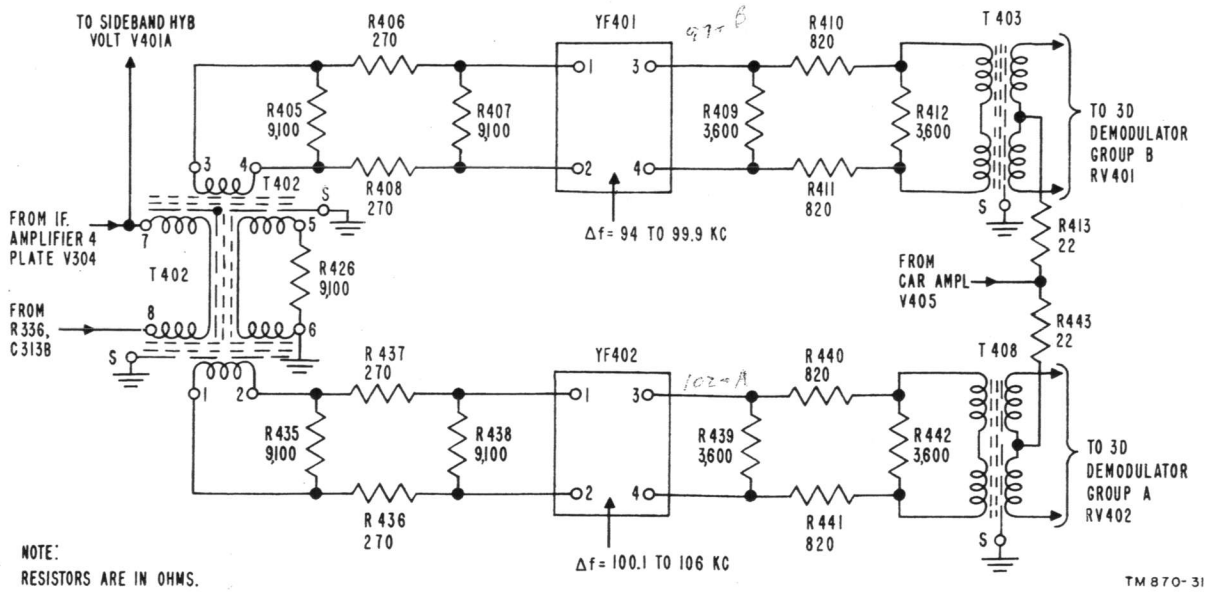

Figure 39. Groups A and B filters, schematic diagram.
YF402 (fig. 39) from strong signals that damage the crystal elements. The crystal filters couple the signal from if. amplifier 4 to the third demodulators (fig. 29). The magnitude of the signals that reach the if. amplifiers (with avc) is generally not large enough to damage the crystal filters. However, in using manual volume control, if the MAN VOL CONTROL potentiometer were on a high setting, the gain of the if. amplifiers might develop a signal with an amplitude sufficient to shatter the crystals in the filters. The protection circuit (b below) prevents this.
c. The amplified output voltage of V304 is developed across terminals 7 and 8 of transformer T402 (fig. 39). The signal input to carrier amplifier 1 is obtained from the secondary of T304.
a. The if. signal output of V304 consists of an am. signal with a frequency spread from 94 to 106 kc. Two sidebands are contained in this signal; one extends from 94 to 99.9 kc, and the other from 100.1 to 106 kc. Different intelligence is carried in the modulation of the two sidebands. To use the intelligence contained in each of the sidebands, the sidebands are separated by quartz crystal filters and are then demodulated in separate demodulators or detectors. Figure 39 is a simplified schematic of the circuit that distinguishes between the upper and lower sidebands and applies them to the separate demodulator channels.
a. The third demodulator in the group B channel is a full-wave, bridge-type demodulator that uses a copper-oxide varistor, RV401. Crystal filter YF401 passes the 94- to 99.9-kc sidebands to the primary of transformer T403 through a balanced 8-db attenuator, R409 to R412 (fig. 39). A 100-kc demodulating signal is injected at the electrical center of the secondary of T403 through R413 by carrier amplifier V405. Carrier amplifier V405 supplies the 100-kc demodulating signal from one of two sources. One source (normally used) is obtained by throwing the CARRIER SUPPLY switch to LOCAL, thereby connecting the output of the 100-kc crystal oscillator to carrier amplifier V405. The other source is obtained by throwing the CARRIER SUPPLY switch to RECON, thus connecting the recon-ditioned carrier (obtained from the if. and limiter circuits) to carrier amplifier V405. Either the local or the recon-